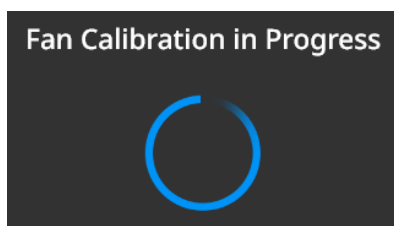

Figure 15
23. The controller displays **Fan Calibration in Progress** while calibrating without the filter attached (see Figure 15).